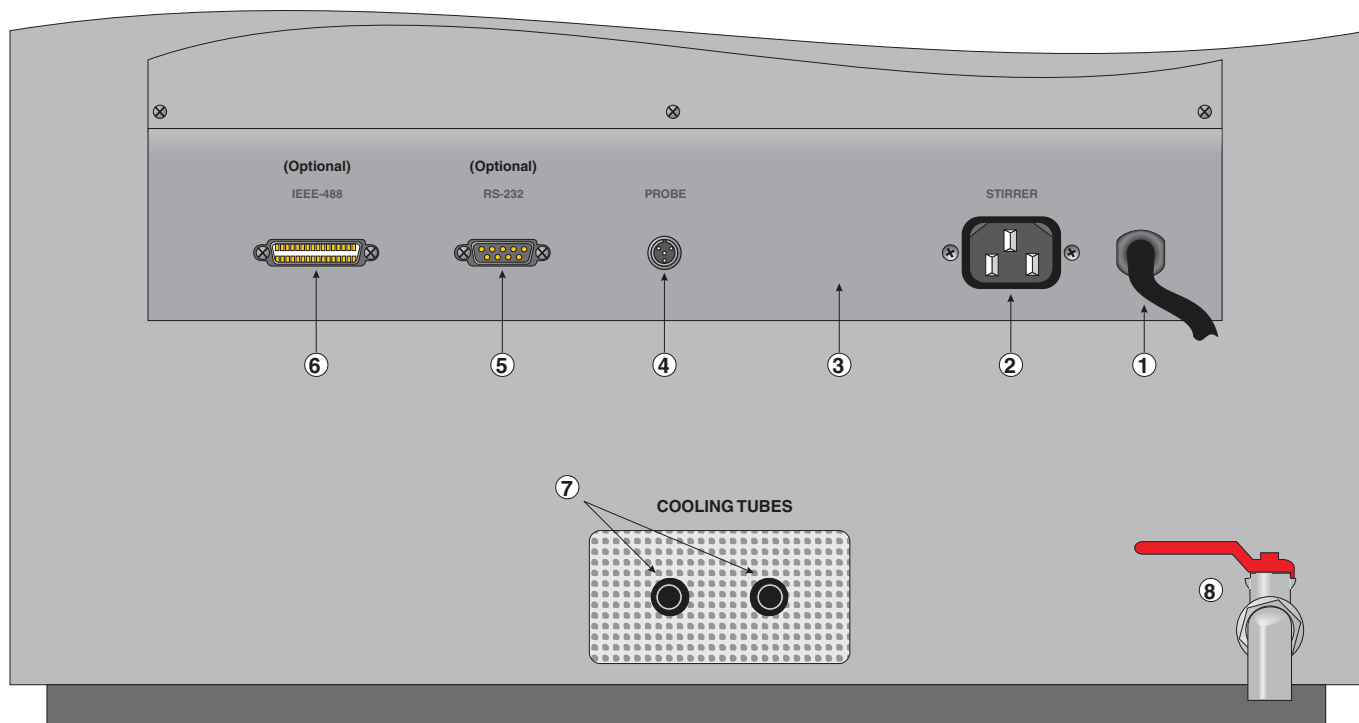

Figure 5 Back Panel
The back panel of the bath contains the following features: (1) the bath power cord, (2) the stir motor power socket, (3) the system fuses (located internally), (4) the probe socket, (5) the RS-232 interface connector (optional), (6) the IEEE-488 interface connector (optional), (7) the cooling tubes, and (8) the bath drain. (See Figure 5 on page 26.)
(1) The bath power cord extends from the back of the bath. It provides power for the bath temperature controller, the heaters, and the stir motor. The cord is plugged into an AC mains socket of appropriate voltage and current. See Section 3.1, Specifications for specific details.